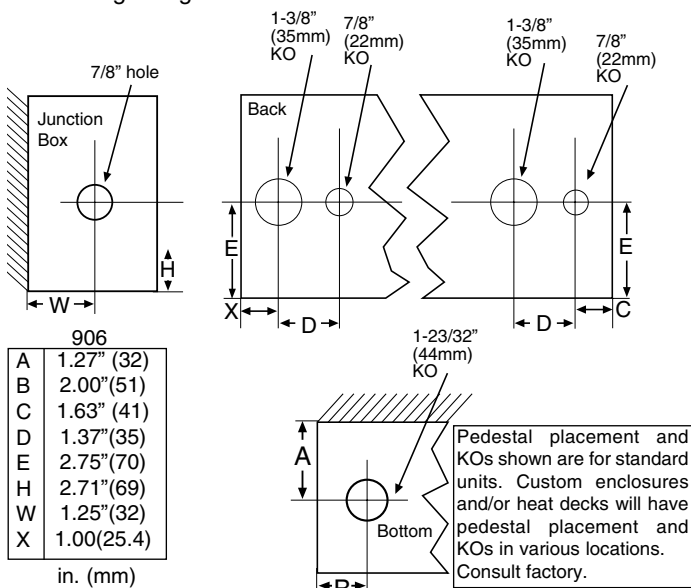

Fig. 3
1. Run branch circuit of proper voltage and wire size to location of left or right junction box as indicated on heater wiring diagram. Basic heaters are prewired and can be connected to branch circuit at either end. Heaters with controls are prewired for connection to branch circuit at one end only (refer to heater wiring diagram). However, heater can be wired from opposite end by running wires through heater wireway. See Fig. 3 for knockout locations.
- Remove appropriate electrical knockouts from either junction box. See Fig. 3 for location of knockouts. If heater is to be pedestal mounted, consult pedestal kit installation instructions.
- Refer to wiring diagram for power supply entry and remove appropriate electrical knockout (Fig. 3) from the heater in which power supply connections are to be made. The power supply may be brought into the end of one heater and the remaining heaters may be connected in parallel using the wireway. Use Table B to size the field installed wiring in the wireway or use Table A to determine the maximum length or heater run possible using the factory installed wire in the heater wireway.